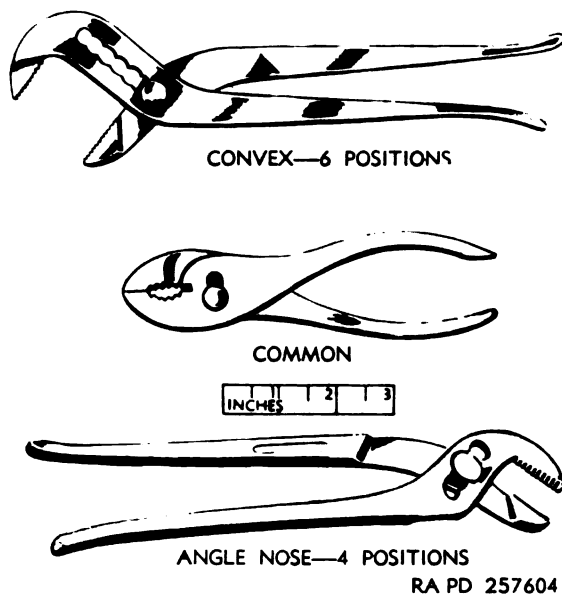
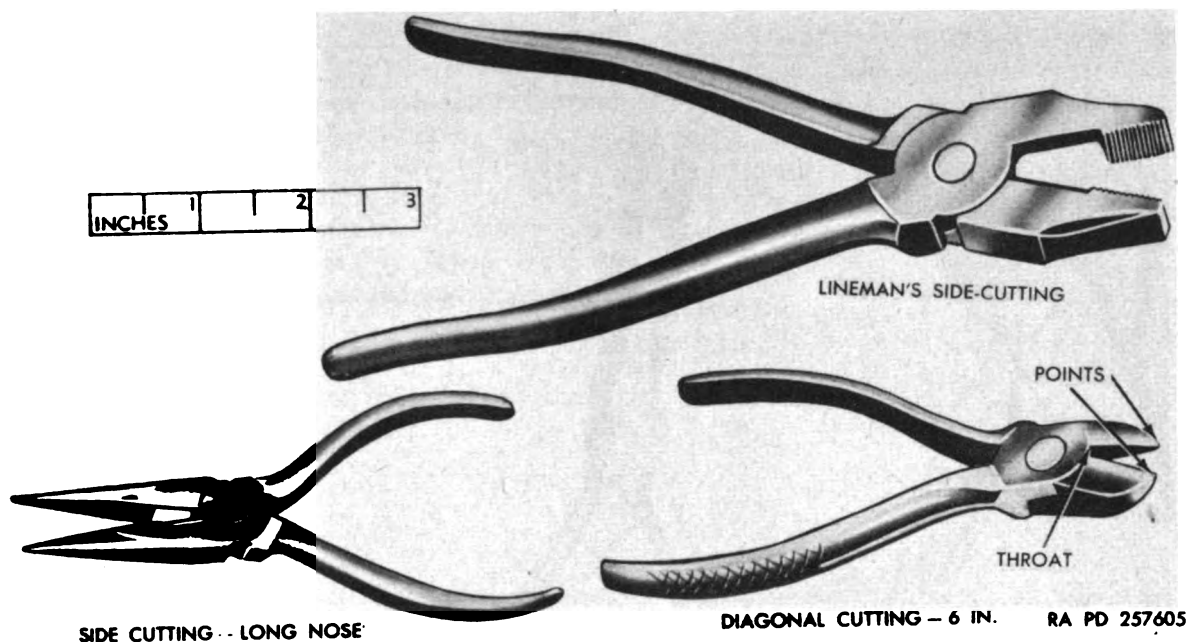

Figure 134. Slip joint combination pliers.
Figure 135. Diagonal and side cutting pliers.
106. Purpose of Pliers and Tongs (figs. 134 through 138)
a. *Slip Joint Combination Pliers.* The slip joint combination pliers (fig. 134) are most commonly used to hold or bend wires, small bars, and a wide variety of miscellaneous items. Some have short cutting edges near the hinge for cutting wire. The slip joint permits adjustment and wider opening of the jaws. The jaws have serrations or teeth for gripping.
b. *Diagonal Cutting Pliers.* Diagonal cutting pliers (fig. 135) have short jaws with the cutting edges at a slight angle. They are used for cutting soft wire and stock and for removing cotter pins. They are also used for cutting cotter pins to desired length and for spreading the ends after the pin is inserted through a hole.
c. *Lineman's Side Cutting Pliers.* Lineman's side cutting pliers (fig. 135) are used for cutting wire and peeling insulation. The flat serrated jaws are also used to twist wire ends together in making splices.
Make sure the hinge or joint is tight before using pliers. —Insulate handles of pliers when using them in electrical work with several thicknesses of friction tape, rubber tape, or specially manufactured rubber grips. When cutting large material within the capacity of diagonal cutting pliers (fig. 135), cut with the throat of the jaws, not with the points. The tendency of misaligning the jaws will be greatly reduced. Once the jaws are misaligned (sprung), it will be impossible to cut fine wire. To preserve the life of slip joint combination pliers (fig. 134), do not use them on very hard metal. Hard metal will wear off the teeth and the pliers will lose their grip. Use pliers only for the purpose for which they are intended. Do not try to increase the leverage of their handles by lengthening them with sections of pipe or other extensions.